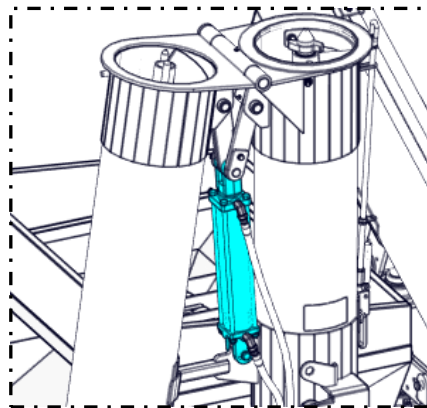

Figure 4.17
- A) Unfold the discharge auger (Figure 4.16) using the hydraulics (Figure 4.17) and the appropriate handle on the hydraulic control valve.